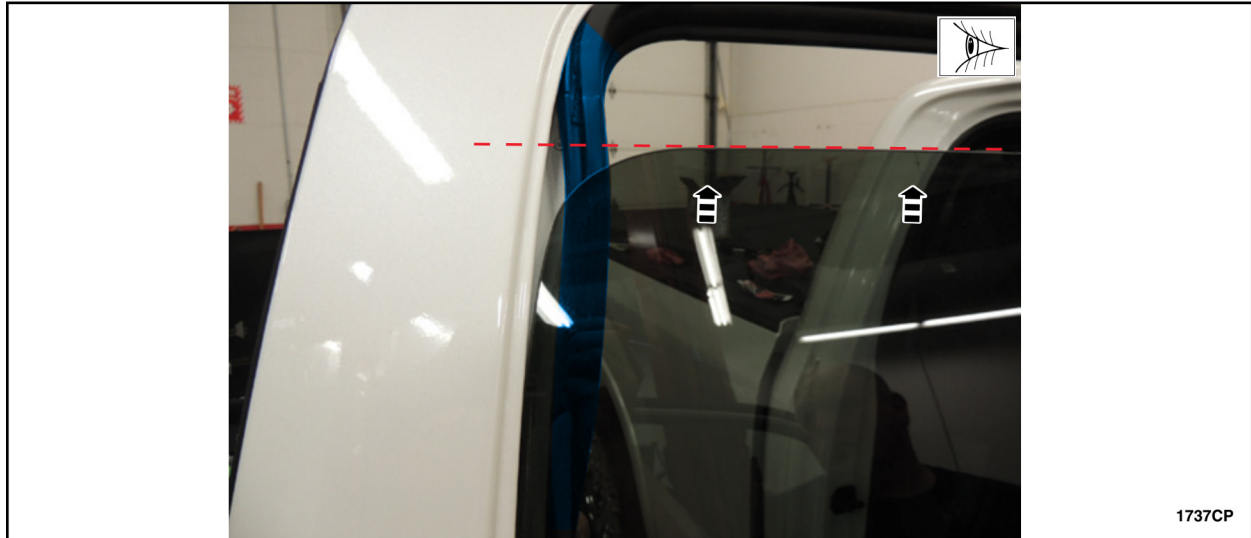

FIGURE 34
6. With the latch side of the rear door glass top run still positioned aside, raise the rear door window glass three quarters of the way up. See Figure 34.